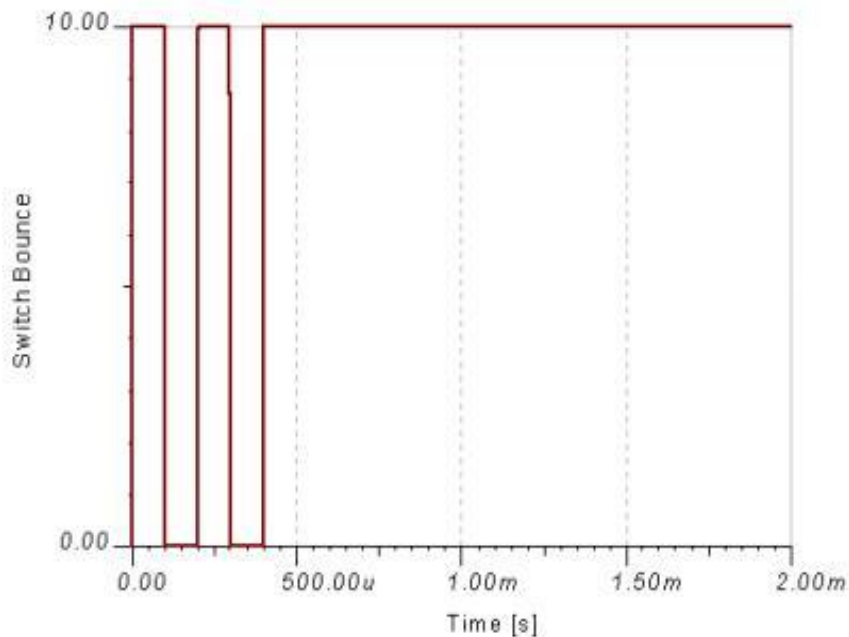

Figure 2 Switch Bounce
- From the Pre-lab – Draw a waveform diagram with inputs D and clk of the Flip-flop and output Q. For the clock input, show two (2) clock cycles with a period of 10 milliseconds and a positive pulse with a width equal to 2 clock cycles. Assume the Arduino Duemilanove clock frequency of 16 MHz. For the D input assume the switch is initially pressed and that the input is at logic zero. Next add the bounce waveform shown Figure 2. The switch bounce should occur somewhere relative to the leading edge of the first clock signal. The exact phase relationship of the switch bounce to the clock edge is left to you, but time scales must be the same between the two (2) inputs. Based on these two inputs to the D Flip-flop draw output signal Q.